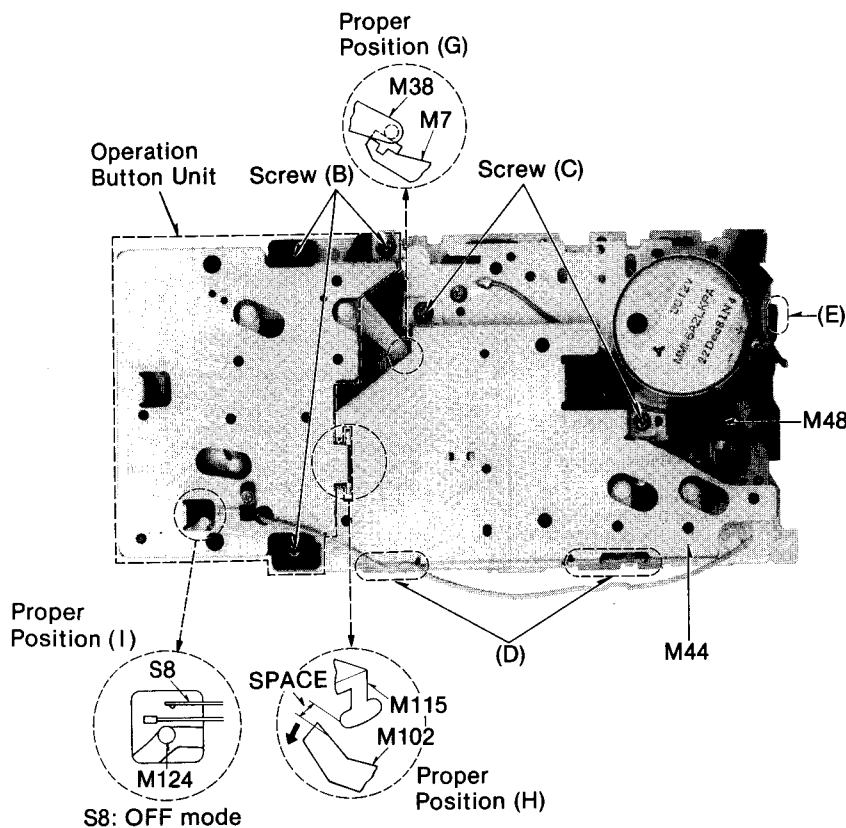

Fig. 2
2. Remove three screws (B) and remove operation button unit (see Fig. 2).
3. Remove two screws (C) and hook at section (D) to dismount flywheel retainer (M44) (see Fig. 2).
4. Remove hook at section (E) and cord clammer (M48) (see Fig. 2), and then remove two screws (F) (see Fig. 3) to dismount motor unit.
Before installing the operation button unit in the mechanism unit, pull the play changing lever (M102) of the mechanism unit in the direction of the arrow until it is locked, and set the pause, F.F. and rewind buttons of the operation button unit to OFF. At this time, check that all parts are installed at their proper positions at sections (G), (H) and (I) (see Fig. 2).